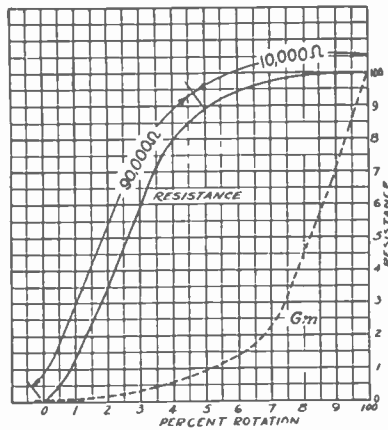

FIGURE 22
In this illustration dotted lines indicate that a portion of the control resistance may be retained to supply the minimum bias which is required by the tube at full volume. Also, the dotted lines show that one or more cathodes may be connected to the control and that there may, or may not be a bleed current through the control. For the present, we will consider that the circuit controls only one tube and does not have a bleed current. Although a triode tube is shown, this circuit is also used with tetrodes and pentodes. For the purpose of explanation, we give Figure 22, which shows the use of a 100,000 ohm Yaxley No. 2 right-hand taper control, Yaxley type UC509, with the resistance plotted against the (GM) Mutual Conductance of the tube and both curves against the rotation of the control.
The graph in Figure 22 illustrates the use of a bias control on a remote cut-off type of tube. In fact, a 6D6 was used in this calculation. In practice, a straight Bias type control would hardly ever be used with this tube, but rather the combination Ant.-Bias circuit in order that locals may be fully attenuated.